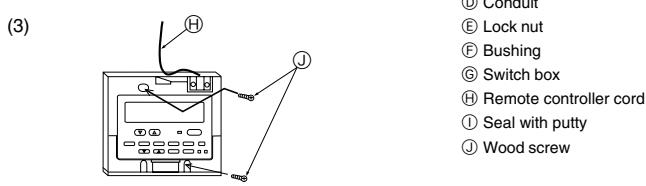

Fig. 6-4
(3) For direct installation on the wall (Fig. 6-4)